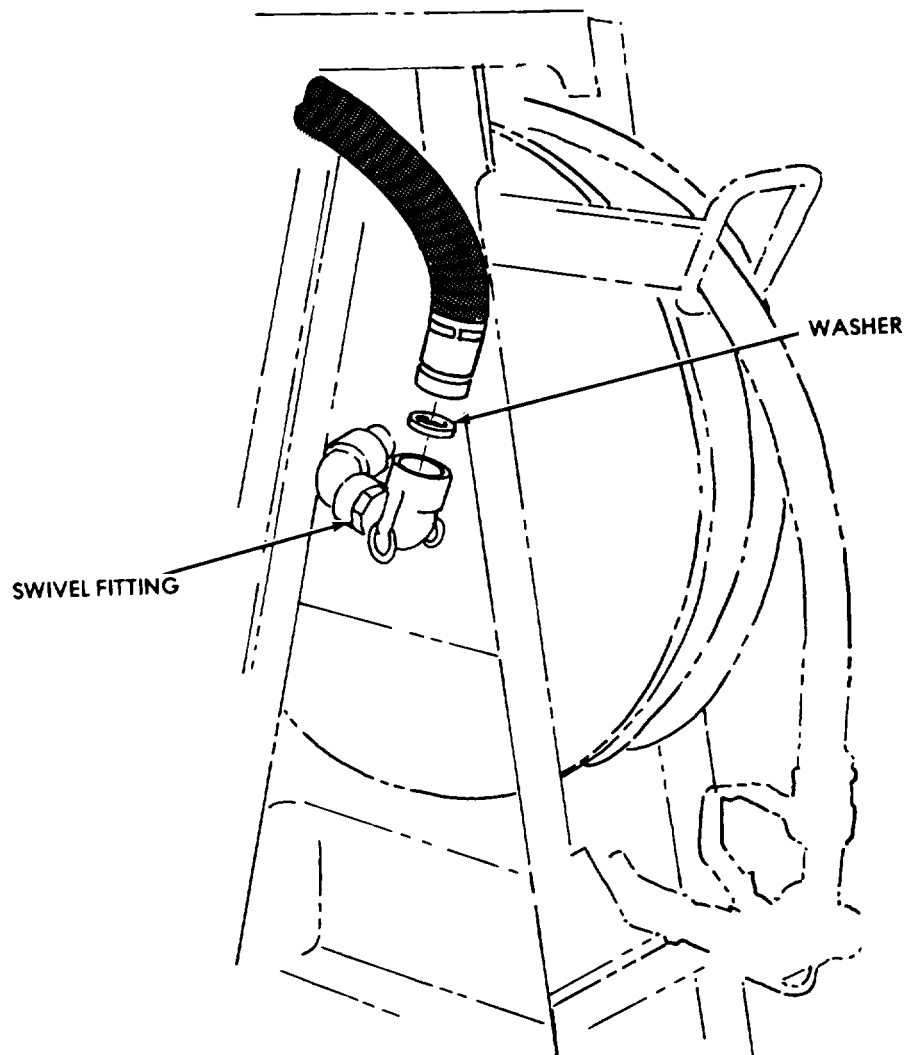
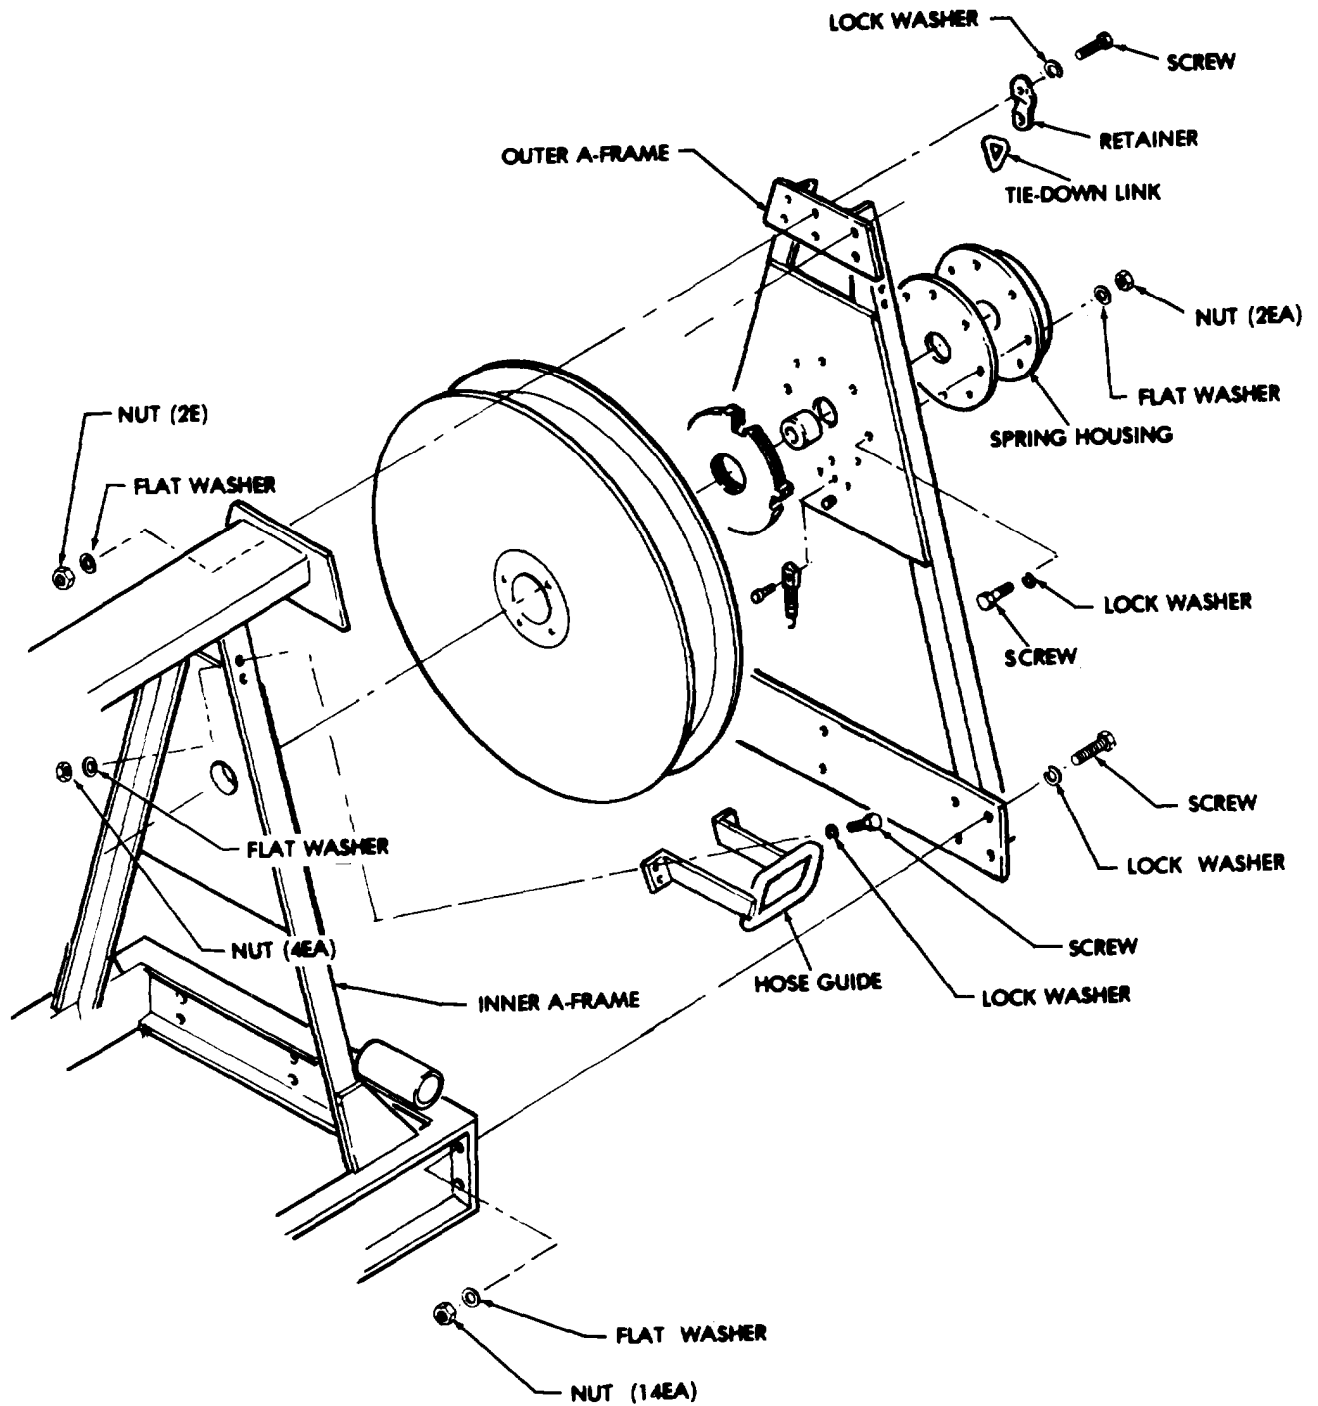

Figure 5-8 Swivel Fitting.
Figure 5-9. Reel Assembly.
- (5) Remove swivel pipe fitting and coupling half (figure 5-8).
- (6) Remove two screws, lockwashers, flat washers, and nuts to remove spring housing (figure 5-9).
- (7) Remove four lockwashers, flat washers, nuts, and the hose guide from A-frames.
- (8) Remove two screws, flat washers, lockwashers, and nuts to detach tiedown link and retainer from outer A-frame.
- (9) Remove 14 screws, lockwashers, flat washers, and nuts to remove outer A-frame.
- (10) Slide outer A-frame off reel hub.
- (11) Pull reel from inner A-frame bearing.
- (1) Install reel on inner A-frame bearing (figure 5-9).
- (2) Slide outer A-frame onto reel hub.
- (3) Install outer A-frame with hardware.
- (4) Attach tiedown link and retainer to outer A-frame.
- (5) Attach hose guide to A-frames.
- (6) Install spring housing on A-frames.
- (7) Install swivel pipe fitting and coupling half (figure 5-8).
- (8) Turn hose reel carefully, by hand, nine complete revolutions outward to apply recoil spring tension. When hose reel is under recoil spring tension, be careful not to trip ratchet when connecting hose as a sudden release of spring tension could cause serious injury.
- (9) Attach dispensing hose to reel coupling and secure by pushing in on cam arms.
- (10) Wire cam handles flat on hub coupling.
- (11) Pull outward on hose and release reel to rewind hose.
- (1) Place reel over inner A-frame bearing (figure 5-9).
- (3) Attach A-frame with 14 screws, lockwashers, flat washers, and nuts.
- (4) Attach tiedown link and retainer to outer A-frame with two screws, flat washers, lockwashers, and nuts.
- (5) Attach hose guide to A-frame with four lockwashers, flat washers, and nuts.
- (6) Attach spring housing with two screws, lockwashers, flat washers, and nuts.
- (7) Attach swivel pipe fitting and coupling half (figure 5-8).
- (8) Turn hose reel carefully by hand nine complete revolutions to apply recoil spring tension.